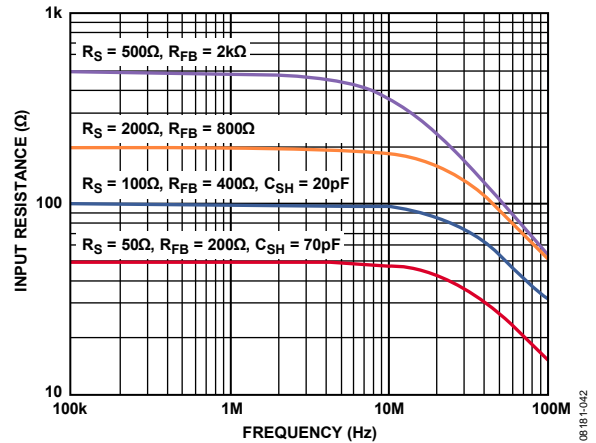

Figure 48. RIN vs. Frequency for Various Values of RFB (Effects of RS and CSH Are Also Shown)
The bandwidth (BW) of the LNA is greater than 100 MHz. Ultimately, the BW of the LNA limits the accuracy of the synthesized RIN. For RIN = RS up to about 200 Ω, the best match is between 100 kHz and 10 MHz, where the lower frequency limit is determined by the size of the ac coupling capacitors, and the upper limit is determined by the LNA BW. Furthermore, the input capacitance and RS limit the BW at higher frequencies. Figure 48 shows RIN vs. frequency for various values of RFB.